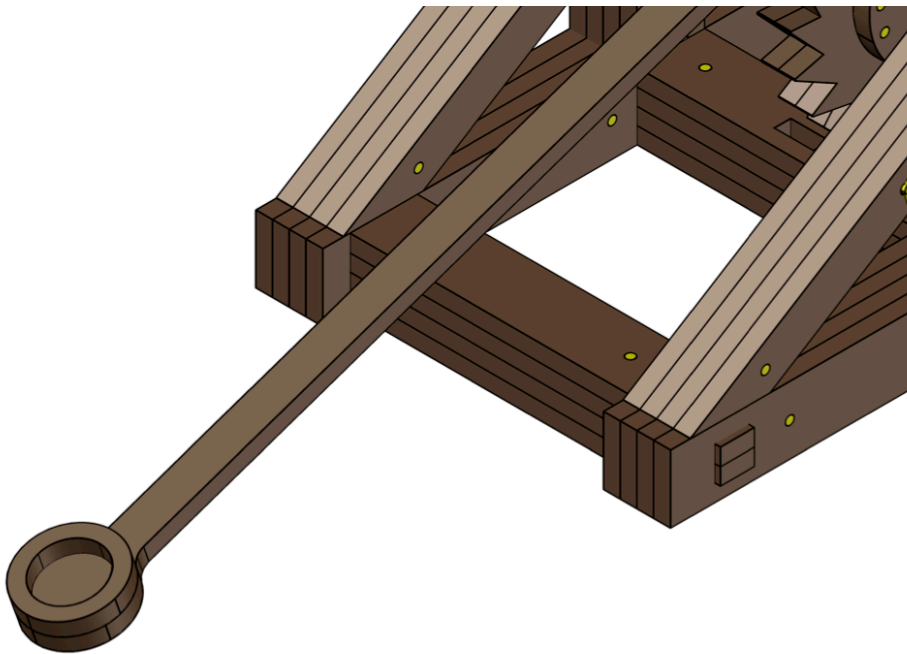

Fig. 42
- Fig. 42 shows the completed step.